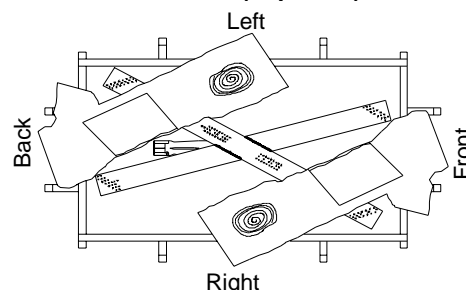

Figure 44 - Installing Logs “A” (Top View)
8. Place logs “A” as shown in Figure 44.